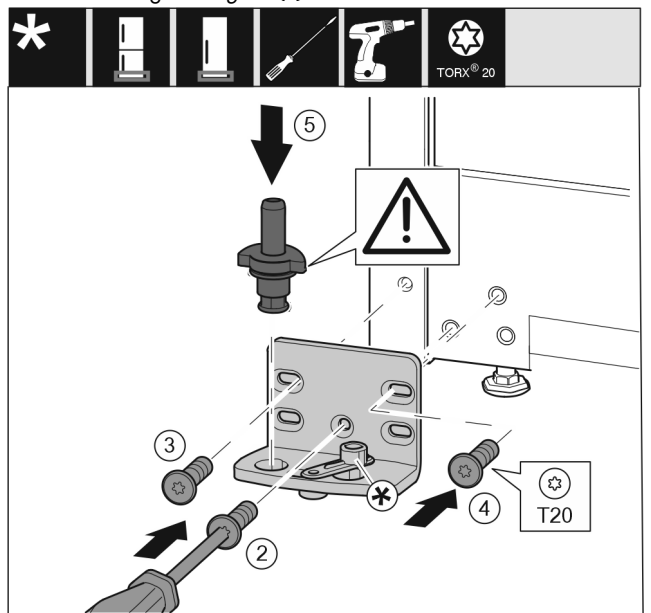

Fig. 18
- ▶ Place the bearing bracket on the other side and screw it in using the T20 screwdriver. Start with screw 2 at the bottom in the middle. Fig. 18 (2)
- ▶ Screw in screws 3 and 4. Fig. 18 (3,4)
- ▶ Insert the bearing pin completely. Make sure that the latching lug is pointing to the rear. Fig. 18 (5)